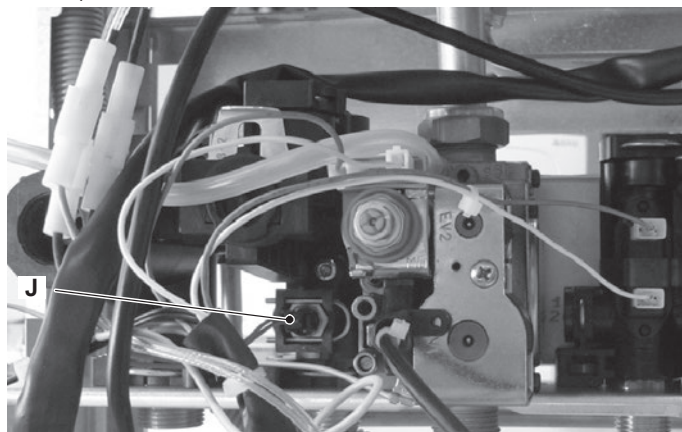

Figure 9.7
- 5 Disconnect D.H.W. temperature probe, respectively J (Figure 9.7).